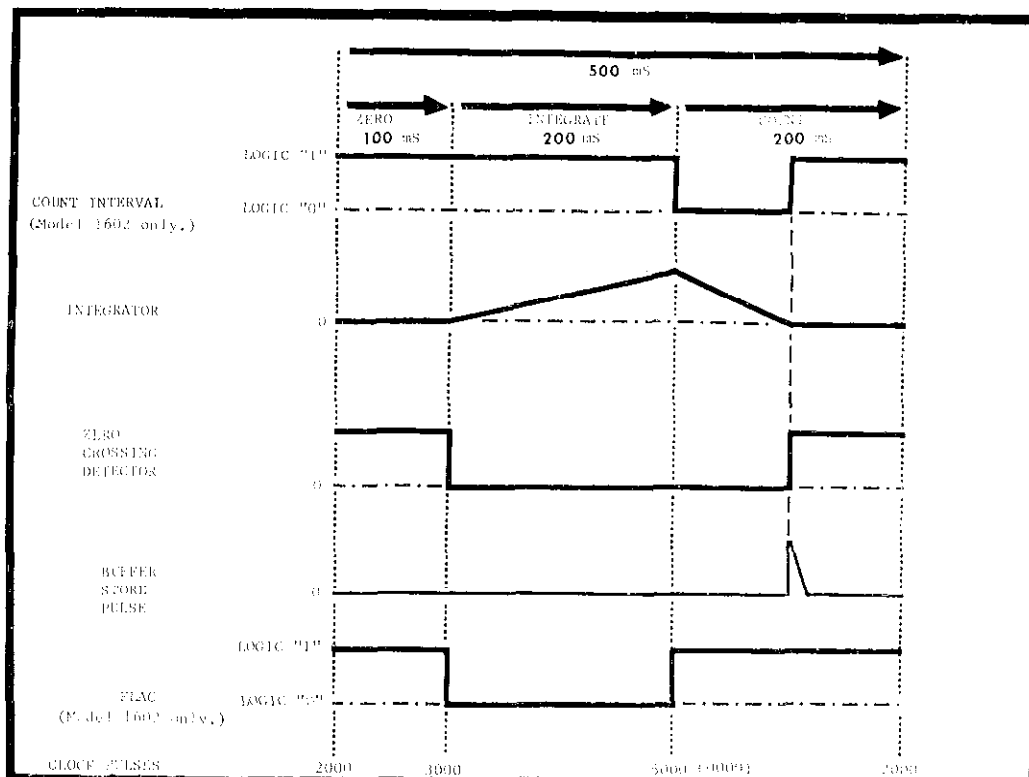

FIGURE 6. Timing Diagram.
a. General. (refer to Figure 9 for a detailed block diagram of the A-to-D converter) The analog-to-digital converter uses a dual slope integration technique which has inherent line frequency noise rejection. The analog signal is applied to the integrator for 200 milliseconds which is an even multiple of the line frequency of 50 or 60 Hz. The analog signal is then removed from the integrator input. The voltage on the integrator is then driven to zero to complete the voltage-to-time conversion. The time interval to reach a "Zero Crossing" is counted and displayed on the "Digital Readout" in proportion to the original analog signal. Before the sequence is repeated, the integrator is rezeroed. (Refer to the Timing Diagram shown in Figure 6.)
f. Integrator. The Integrator circuit operation is composed of three periods (refer to Figure 6 ).